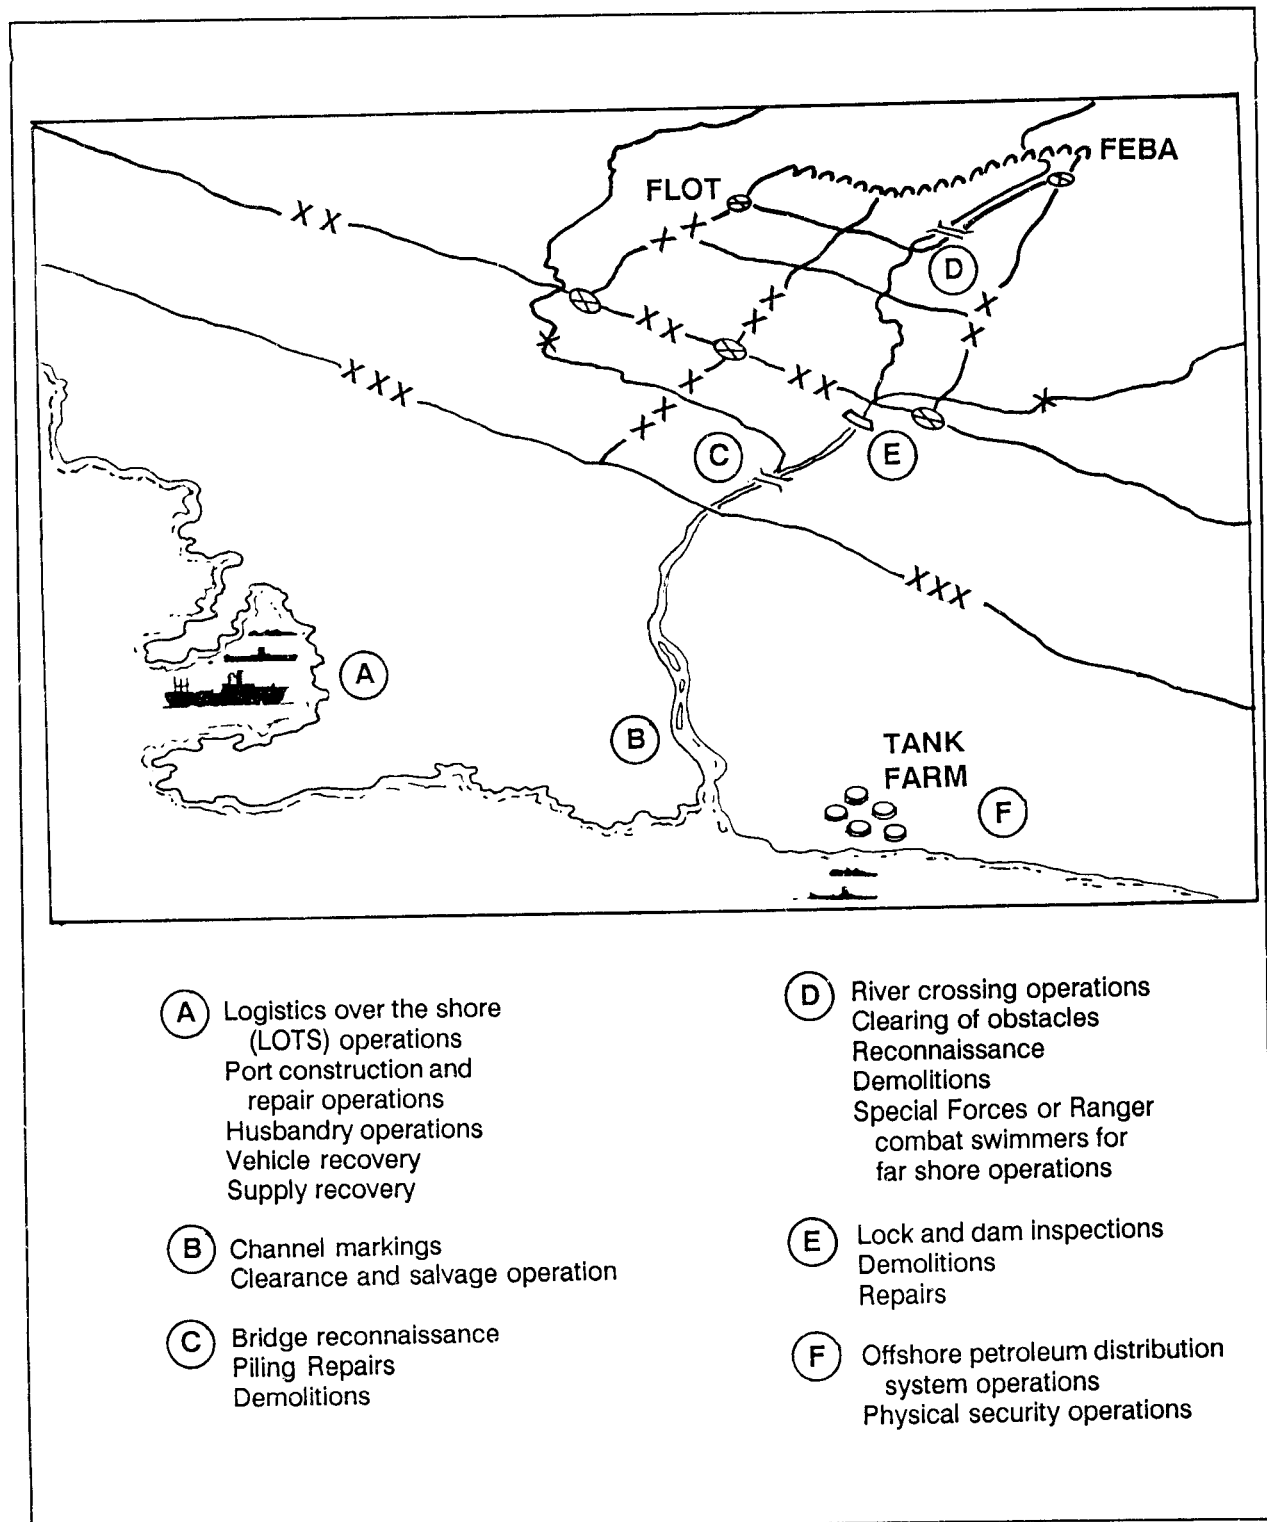

Figure C-1. Engineer Diver Deployment in the Theater
a. Engineer divers support all diving missions in the theater of operations. Engineer support in the communication zone is provided on an area basis; and in the combat zone, it is provided on an individual task basis. Figure C-1 shows engineer diver deployment in the theater.